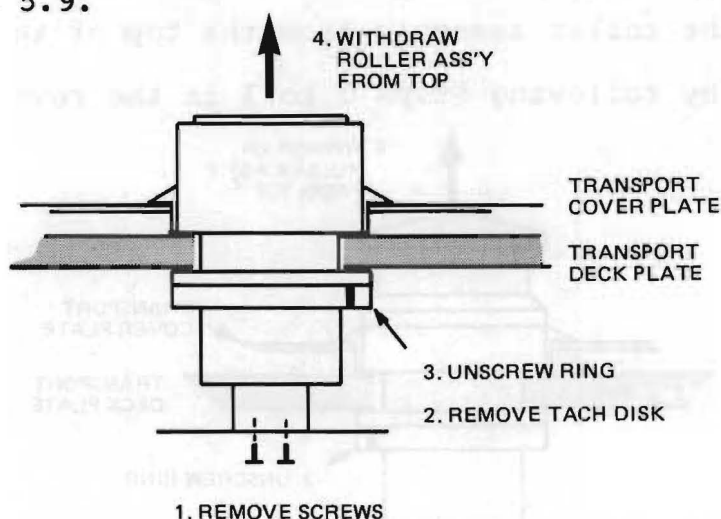

FIGURE 10-3. TACHOMETER ROLLER DISASSEMBLY
5. Loosen the two allen head set screws that secure the tach disk to the bottom of the tach shaft, and slide the disk off the shaft. (Refer to figure 10-3.